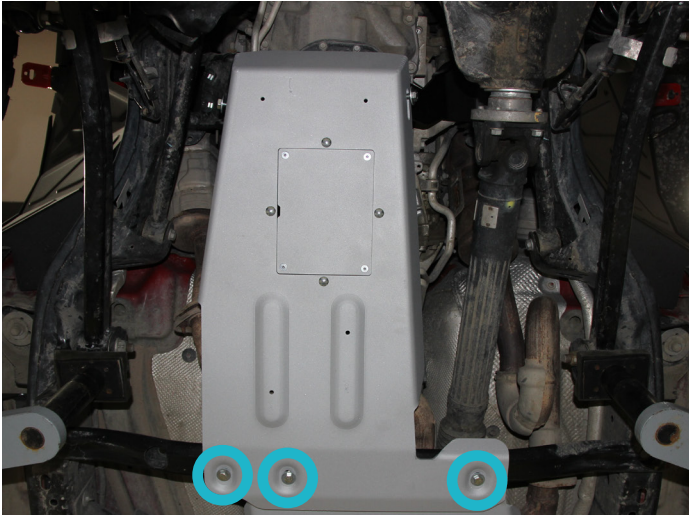

Fig.5
5. Unscrew rear bolts of RIVAL Engine skid plate 2333.2744.1.6 (fig.5).